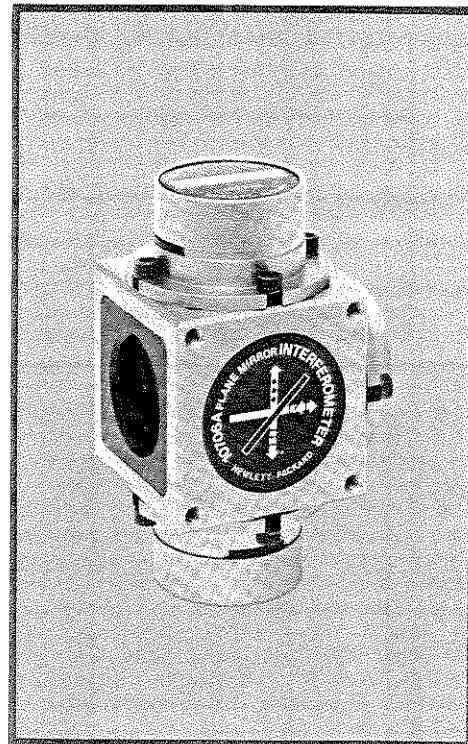

Figure 2-15. 10706A Plane Mirror Interferometer
2.15 10706A PLANE MIRROR INTERFEROMETER (Figure 2-15). The plane mirror interferometer has a unique feature in that the retroreflector can be a flat mirror and it has a particular advantage in that interference fringes can still be detected even if the measurement beam is not at a perfect right angle to the mirror. It is an advantage to use plane mirrors as retroreflectors because (in a two-axis system for example) the X retroreflector can be allowed to move in the Y direction without affecting the signal strength or the X measurement. Therefore both retroreflectors of a two-axis system can be mounted on the same moving part. This makes it very easy to eliminate Abbe offset on a two-axis system. If the measuring point is defined to be where the two axis beams cross, the measurement is essentially independent of yaw of the moving stage. Such a design is shown in Figure 2-44. Contrasting this system to a two-axis system using standard interferometers, we see that (if standard interferometers are used) the X-axis retroreflector must be mounted on a part of the stage which moves only in the X direction and never in the Y direction. Also, the Y-axis retroreflector must be mounted on a different part of the stage which is allowed to move only in the Y direction and never in the X direction. Therefore, the two-axis measurements cannot be made on the same part of the stage and there is by necessity some geometry error in the system if it is not perfectly rigid. Another difference between the plane mirror interferometer and the previous two types is that with a plane mirror interferometer the measurement beam travels between the interferometer and the retroreflector twice and therefore the resolution is twice that of the other interferometers. To be specific, the standard interferometer and single beam interferometer have a resolution of 0.16 micrometre ($6 \mu\text{inches}$) without electronic resolution extension, whereas the plane mirror interferometer has a resolution of 0.08 micrometre ($3 \mu\text{inches}$) without electronic resolution extension. All three of these interferometers are used to measure linear displacement.